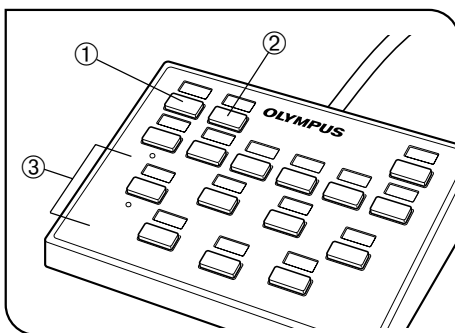

Fig. 4
### 1 Selecting the Observation Light Path (Fig. 4)
### 2 Centering the Field Iris Diaphragm (FS) (Figs. 4 & 5)
## 3 Centering the Aperture Iris diaphragm (AS) (Figs. 4 to 6)
1. Press the BF button ① of the hand switch to select the reflected light brightfield light path.
2. Press the objective button ③ (Fig. 4) of the hand switch to engage the 10X objective in the light path, place the specimen on the specimen table and bring the specimen into approximate focus.
3. Remove an eyepiece, look into the eyepiece sleeve and press the AS-button ⑧ of the hand switch to stop down the aperture iris diaphragm to about 70% opening.